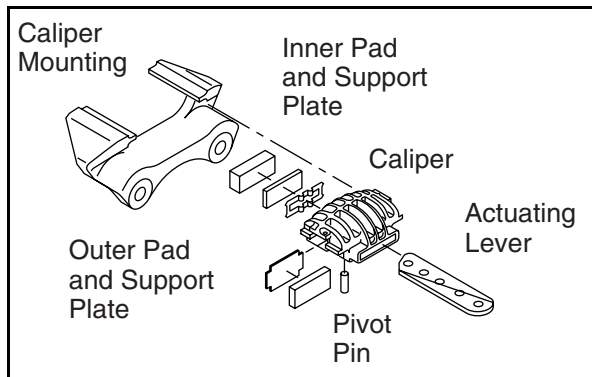

Figure 2C-7. Parking Brake
2. Loosen the upper brake cable-adjusting nut (Figure 2C-9).